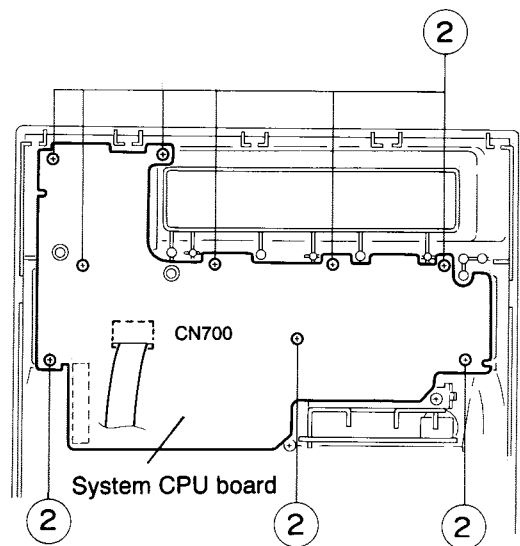

Fig.5-22
7. Remove the nine screws ② fastening the system CPU board. (See Fig. 5-22)
8. Disconnect the card wires protruding from connector CN305 on the head amplifier & mechanism control board from connector CN700 on the system CPU board. (See Figs. 5-22, 5-23)